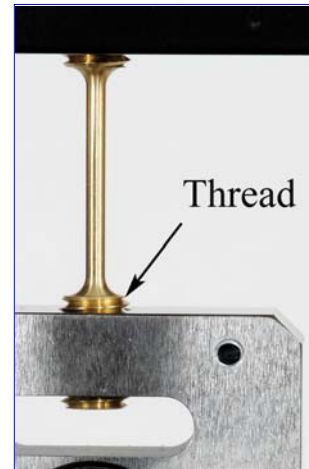

Figure 2. Center Threads
1. Some of the accessories (such as the Tensile Samples shown in Figure 2) thread directly into the top of the Load Cell. The end with the longer threads should be screwed into the knurled cap nut, as shown in Figure 3. Lower the sample through the hole in the cross-head, and screw the other end of the sample into the top of the Load Cell.